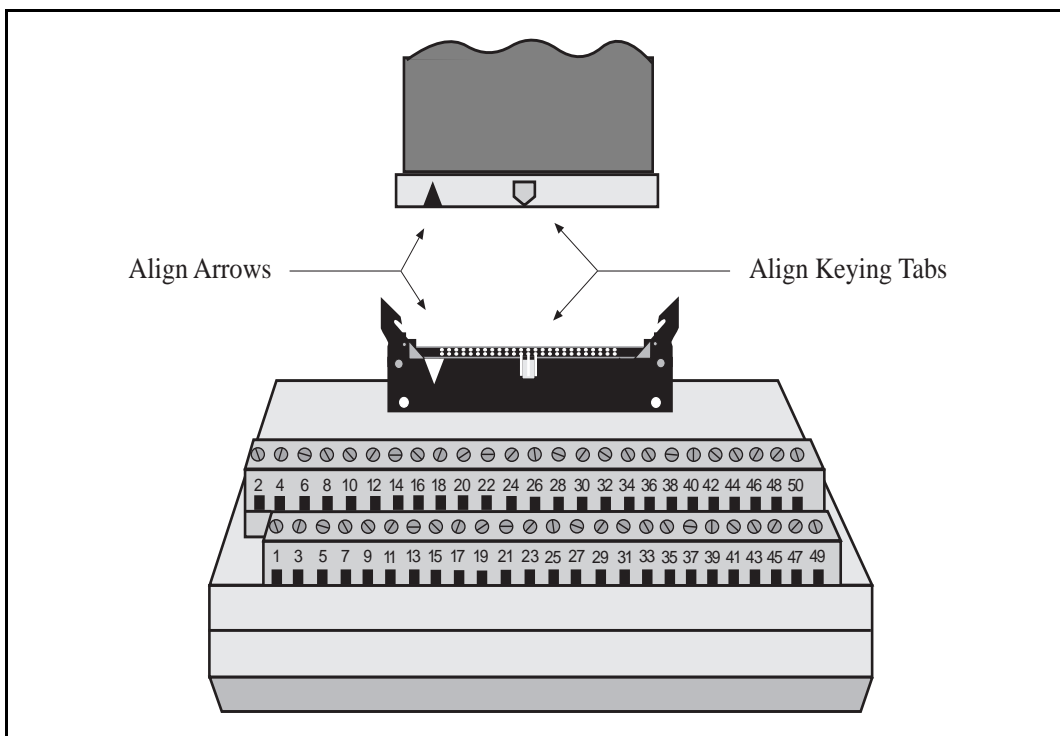

Figure 6. Cable Connections to the CB-50
5. Plug the free end of the ribbon cable into the connector block. Align the tabs and arrows as shown in Figure 6.